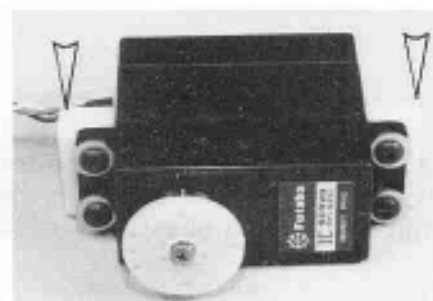

Fig. 173
-172- Mark the servo mounts for drilling. Note that the mounts are turned the "wide way" on both sides of the servo (see Fig. 173). Position the servo as high as possible on the mounts before marking.